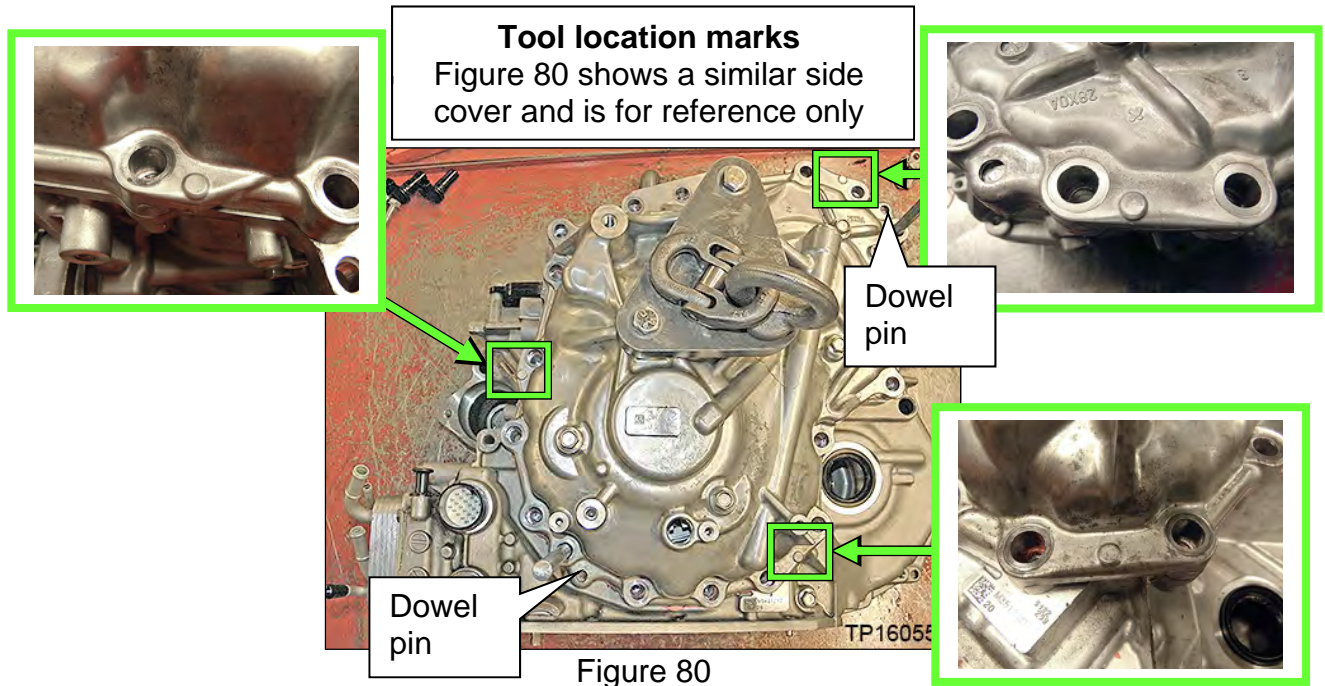

Figure 80
62. Loosen the side cover with a slide hammer at the three points (tool location marks) shown in Figure 80.
- Rotate between the three (3) locations on the side cover until the CVT case separates from the sub-assembly; this can take more than one (1) rotation to loosen sealant.